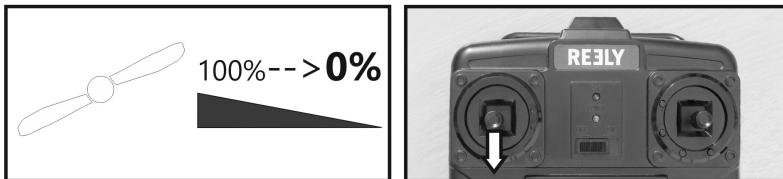

Figure 8
- Push the control lever for the motor function (figure 8) to the bottom position (motor off).
- For the following tests of the elevator and rudder functions, observe that the motor is deactivated. Push the control lever for the motor function (figure 8) to the bottom position (motor off).